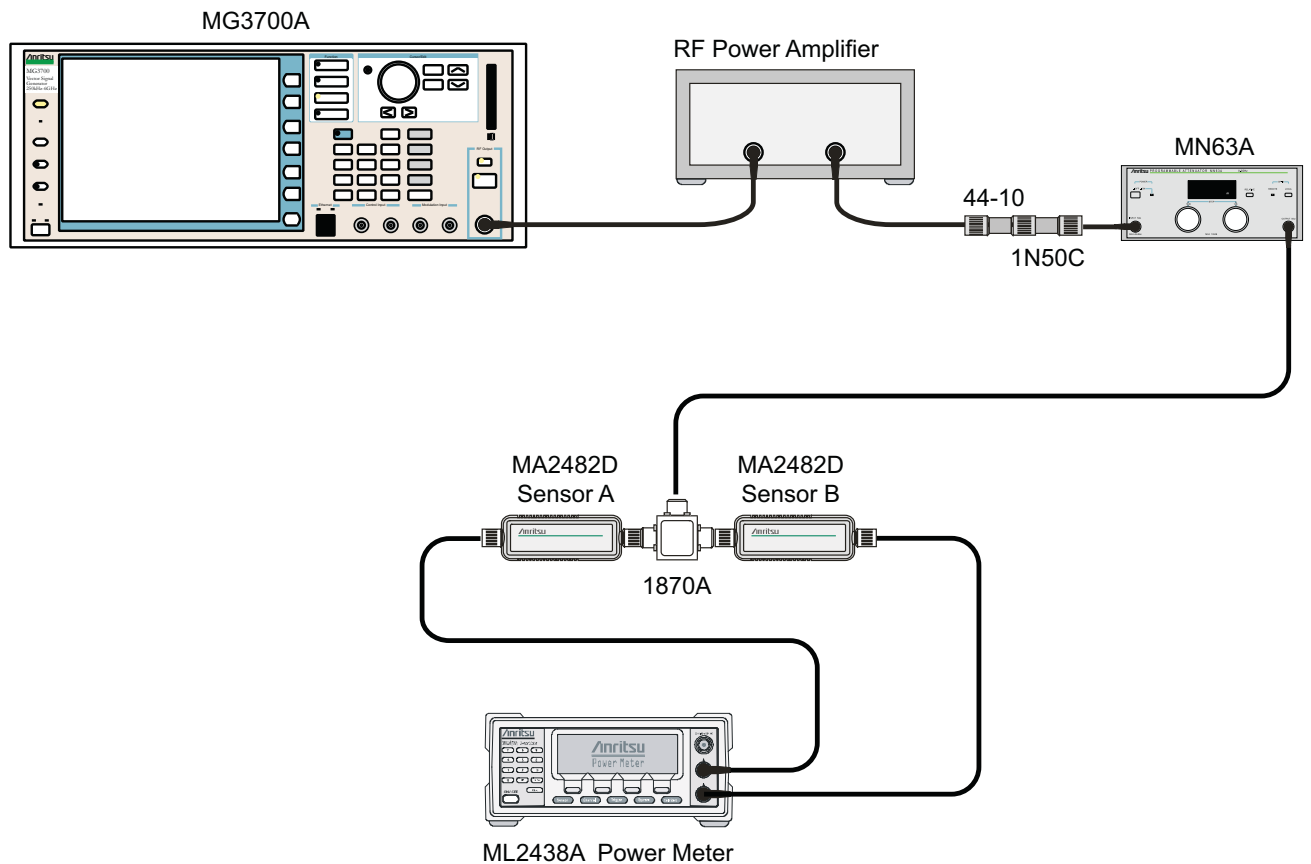

Figure 5-10. DVB-T/H Option 64, Level Accuracy Verification – Two Sensors
2. Connect the MG3700A Signal Generator, Power Amplifier with N(f) to BNC(m) adapters, RF Limiter, MN63A Programmable Attenuator, Power Divider, Power Meter, and Power Sensors as shown in Figure 5-10, “DVB-T/H Option 64, Level Accuracy Verification – Two Sensors”.
52. Turn off the power amplifier, disconnect the power splitter from the MT8222A, and reconnect Sensor A to the power splitter as shown in Figure 5-10, “DVB-T/H Option 64, Level Accuracy Verification – Two Sensors”.